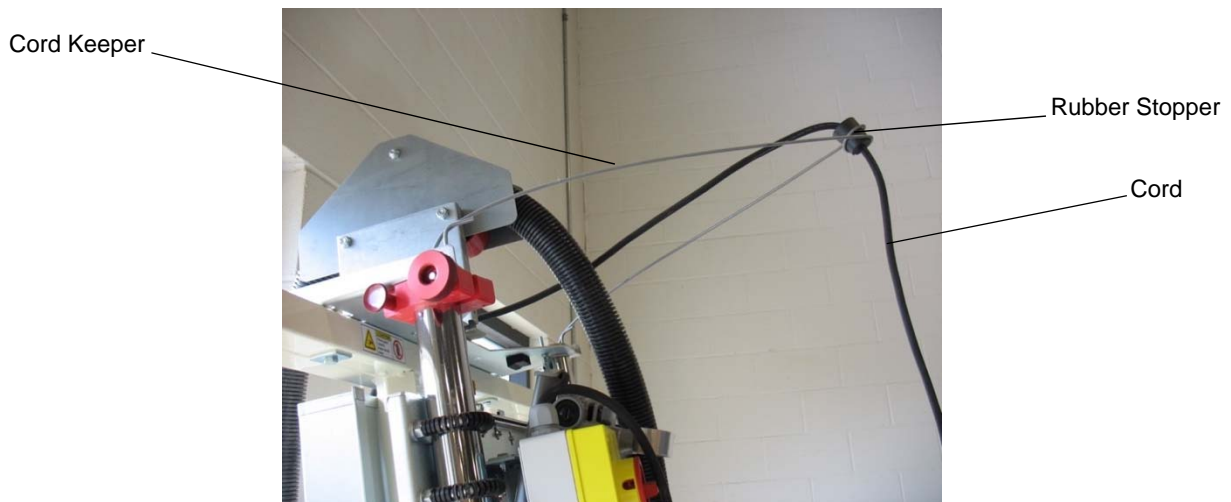

Figure 31: Cord keeper installed with cord
4. Pull the Cord Keeper down so it is approximately parallel to the floor as shown. Pull the cord up to remove any slack in it. Then open the rubber stopper and pull it over the cord with the small end of the taper on the bottom. Press the rubber stopper into the ring on the cord holder, (Fig. 31 & 32).